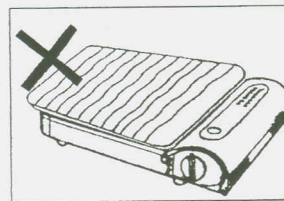

Fig.14
6. Do not use toasting net with asbestos, roasting grill with ceramic and ceramic plate. (Fig 14)